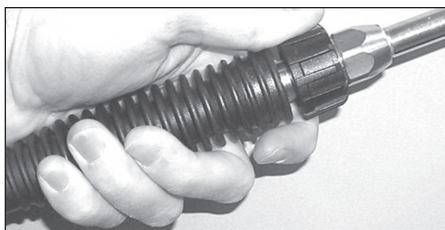

Figure 3 – Attach lance to gun
5. Attach the lance with nozzle to the gun (see Figure 3).